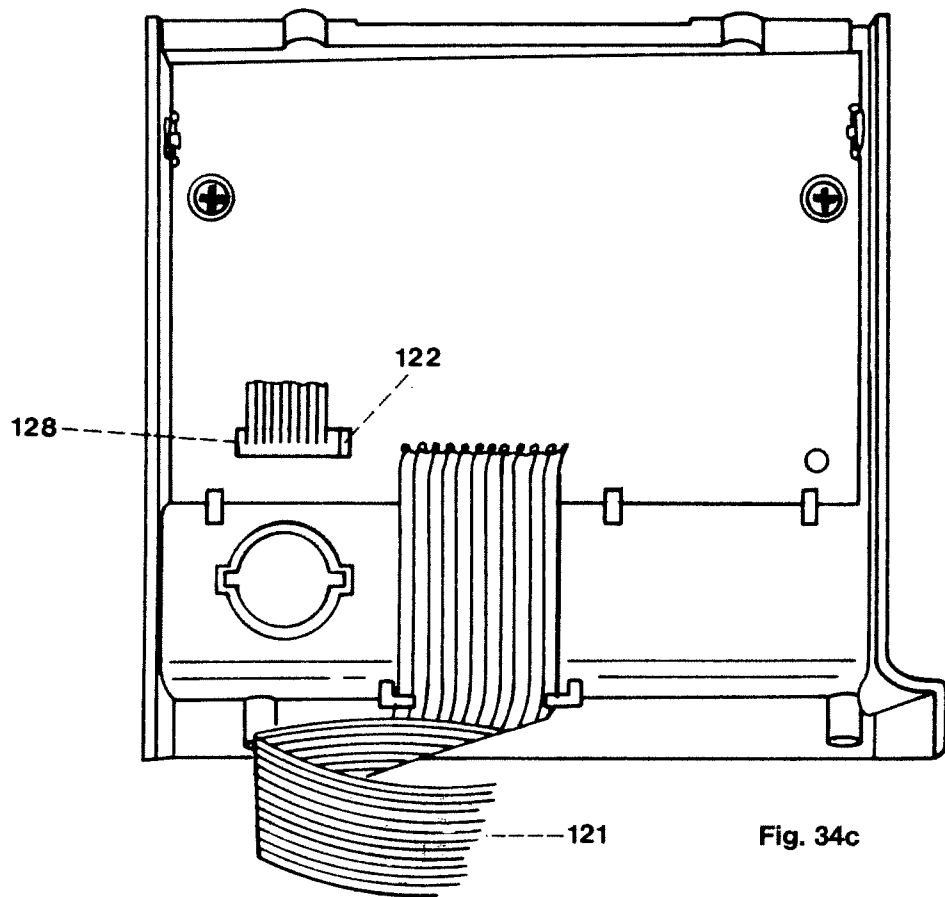

Fig. 34c
- Push lock 122 a little to the side (Fig. 34c).